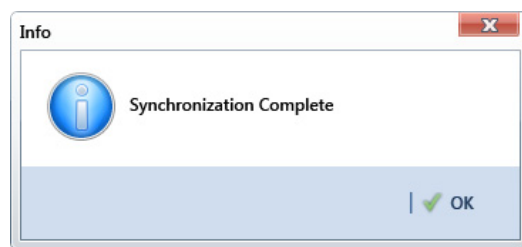

Figure 17-17. Synchronization Complete
- 2 Click **OK** when the message *Synchronization Complete* displays to complete the process (Figure 17-17).